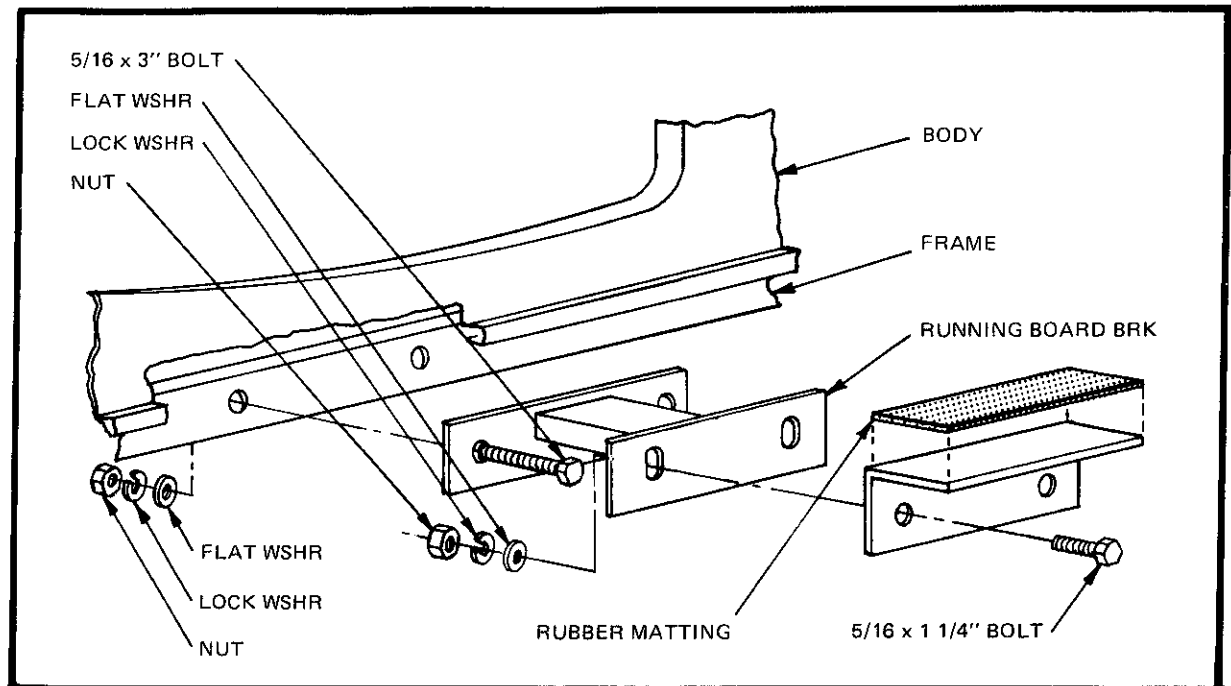

Figure 50
- ☐ Center running board bracket against main frame rail under running board. Position it until it just contacts running board. Mark hole locations and drill 2 holes, $\frac{3}{8}$ ", through frame rail. Attach bracket extension to bracket using 2 bolts, $\frac{5}{16} \times 1 \frac{1}{4}$ " with flat washer, lock washer and nut. Finger tighten. Glue a piece of rubber matting to the top of the extension to prevent squeaks. Bolt bracket to frame using $\frac{5}{16} \times 3$ " bolts with flat washer, lock washer and nut. Final adjustments will be made later. (Figure 50)